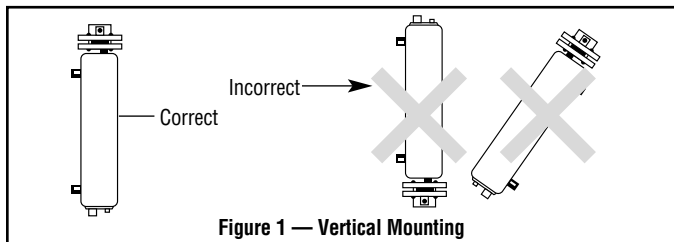

Figure 1 — Vertical Mounting
1. Vertical mounting (axis of chamber vertical, see above drawing.) is preferred with terminal housing at top of heater (Figure 1).